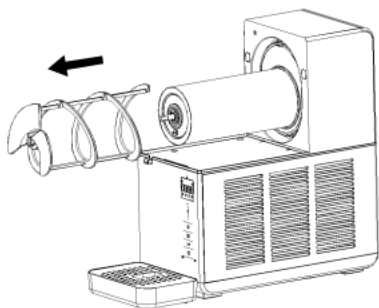
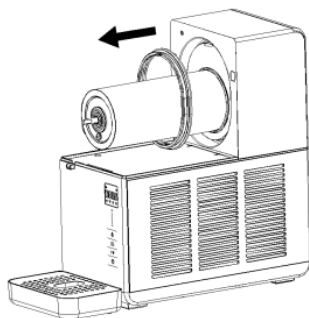

Fig.6
Fig.7
3. Remove the mixing blade from the evaporator (as shown in Figure 6), and then remove the sealing ring of the loading barrel from the base (as shown in Figure 7).